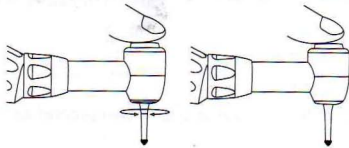

Figure.8
② Push button contra angle
a) Connecting the bur: press the button with your thumb; put the bur inside the head, and turn left or right to match the notch with the hold at the end of the spindle. Put the bur to the bottom and lock it. (See figure.8)